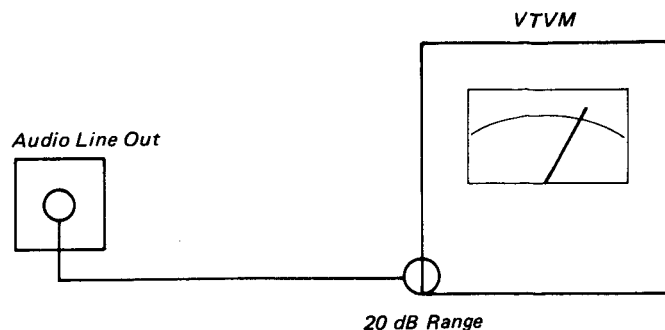

Fig. 5-127 Audio Output Level
1. Connect the VTVM to the AUDIO OUT terminal (see Fig. 5-127).
3. Confirm if the variation of the Audio level is limited within 2 dB. (Fig. 5-127)